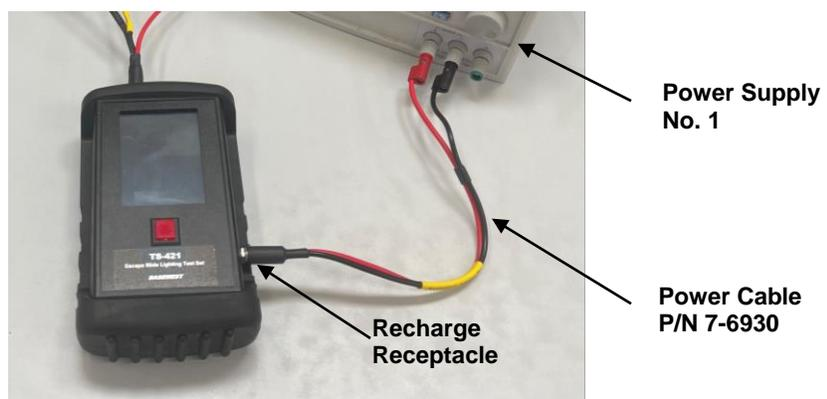

Figure 3. P/N 7-6930 Power Cable Connection
- 5.4 Press the RED Button to turn the test set ON to the HOME screen and immediately connect the other end of the P/N 7-6930 Power Cable to the Recharge Receptacle on the test set (Figure 3). (Note: Pressing the RED while the Home Screen is ON turns the test set OFF.)